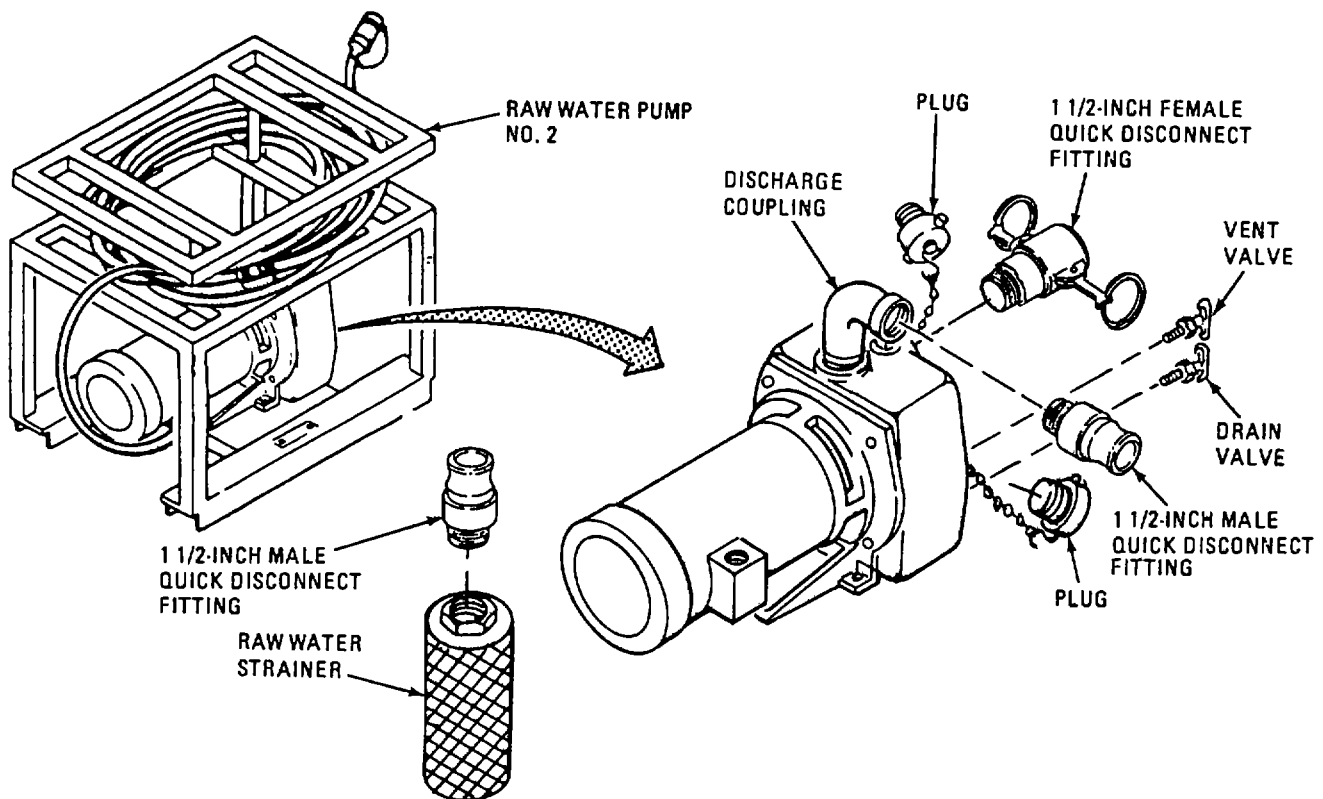

Figure 2-27. Raw Water Pump No. 2 Quick Disconnect Fittings.
- f. Install Raw Water Pump No. 2 Quick Disconnect Fittings. Refer to figure 2-27.